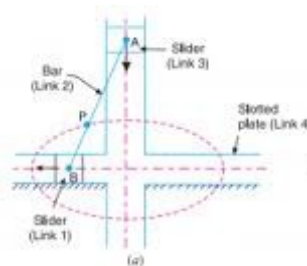

Fig. 1.21
**b) Elliptical trammel mechanism :** As shown in fig. 1.21 in this mechanism, two perpendicular slots are cut in a single plate as link 4. Two sliding blocks, one in each slot (link 1 & 3) are placed forming sliding pair with link 4. The blocks are connected by pin joints through link 2. When link 1 & 3 slide along the respective slots, the point P on the link 2 will trace an ellipse on the surface of link 4.